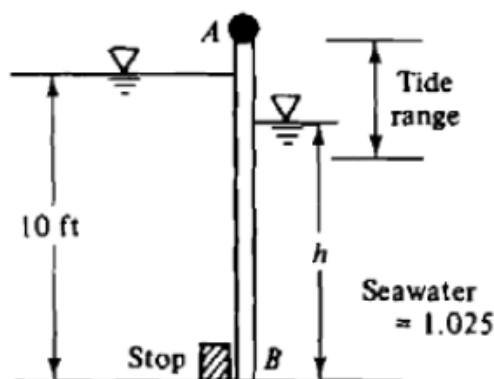

Figure 2 /Rajah 2
- [b] In Figure 2, the gate AB is 5 ft wide and open to let fresh water out when the ocean tide is dropping. The hinge at A is 2 ft above the fresh water level. At what ocean level height, h will the gate open? Neglect the gate weight.